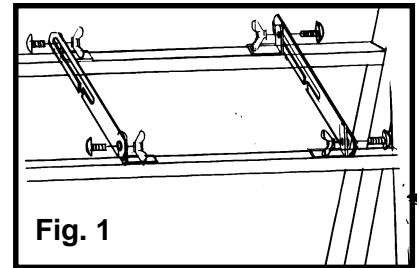

Fig. 1
3. Locate the [2] Lower Stand brackets [D] and attach the side with the 1/4" square cut-out to the Lower Stand Assembly [B] using [2] Bolts [E] and [2] Wing Nuts [F]. Hand tighten. Now attach the channel cut-out (in the lower stand brackets) to the Lower Stand Assembly [B] using the other [2] Bolts [E] and [2] Wing nuts [F]. See Fig. 1 at right.